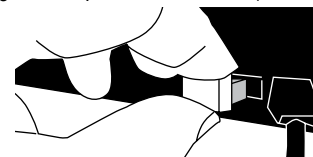

Figure 2
- ① Operate lift until it reaches the desired stopping (up) position.
- ② Insert Limit Dongle into input on control box (see Fig. 2).